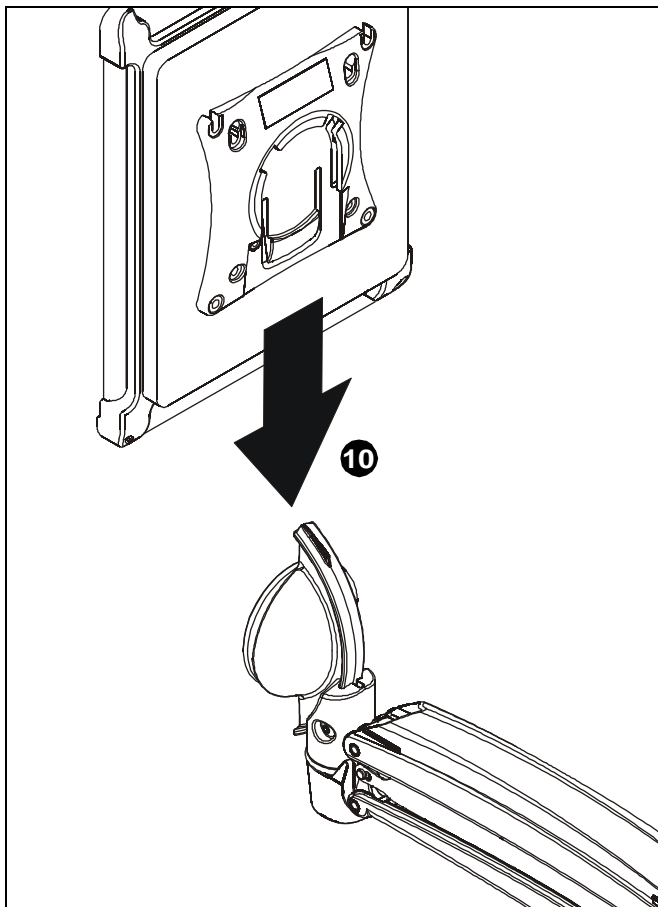

Figure 10
- Position iPad® with faceplate attached above mount. (See Figure 10)
- Slide faceplate onto mounting head until quick release tab clicks into place. (See Figure 10)